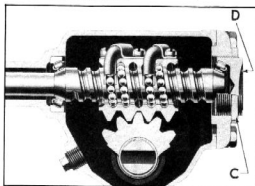

Fig. 4—Worm Gear Adjustment
5. To adjust the worm bearings, loosen lock nut "C" (Fig. 4) and turn worm bearing thrust screw "D" until there is no perceptible end play in worm. Check pull at wheel rim as outlined above, readjusting, if necessary, to obtain proper pull. Tighten lock nut "C" and recheck pull, as it must lie between the limits specified after the lock nut is tightened.
1. Loosen lock nut "B" (Fig. 2) and turn lash adjuster "A" a few turns in counterclockwise direction. Next loosen lock nut "C" (Fig. 4) and turn worm bearing thrust screw "D" a few turns in a counterclockwise direction.